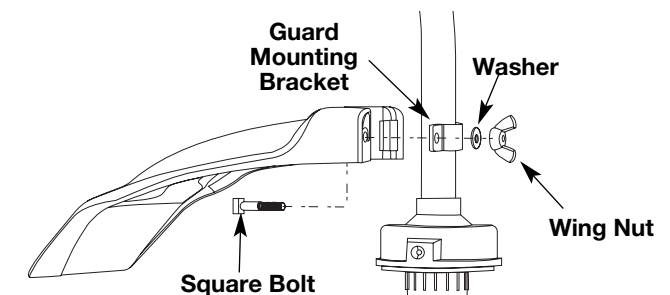

Fig. 5
2. From inside the cutting attachment shield, push the square bolt through the hole until the threaded end protrudes through the guard mounting bracket (Fig. 5).
3. Put the washer on the bolt, then screw the wing nut onto the bolt and tighten (Fig. 5).